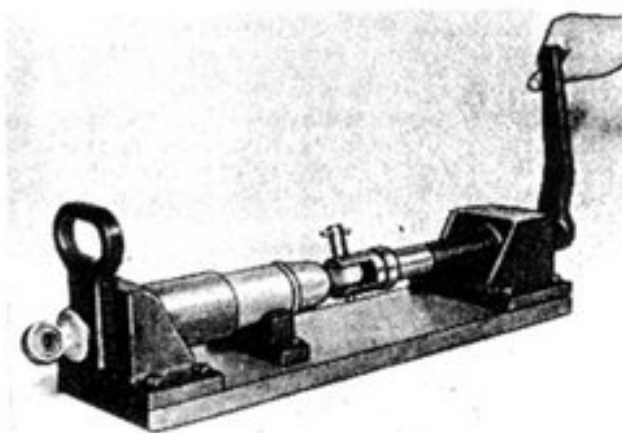

Fig. 38. Dismantling the spring hydraulic shock absorber.
2. Remove splint (Fig. 37) from the upper tip 2. Compress the spring in device 16, Set No. 2, release nut and unscrew tip (Fig. 38).